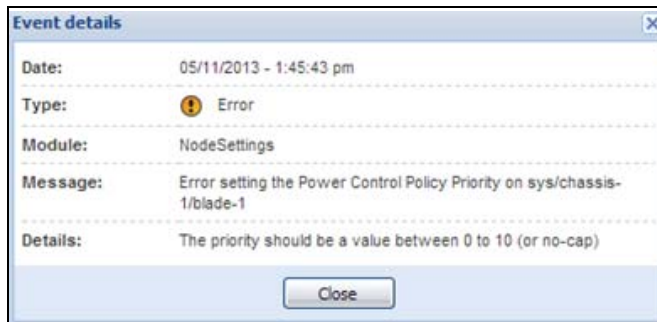

Figure 222. Wrong Power Budget Set
- A wrong value has been set for the power budget (see Figure 222).